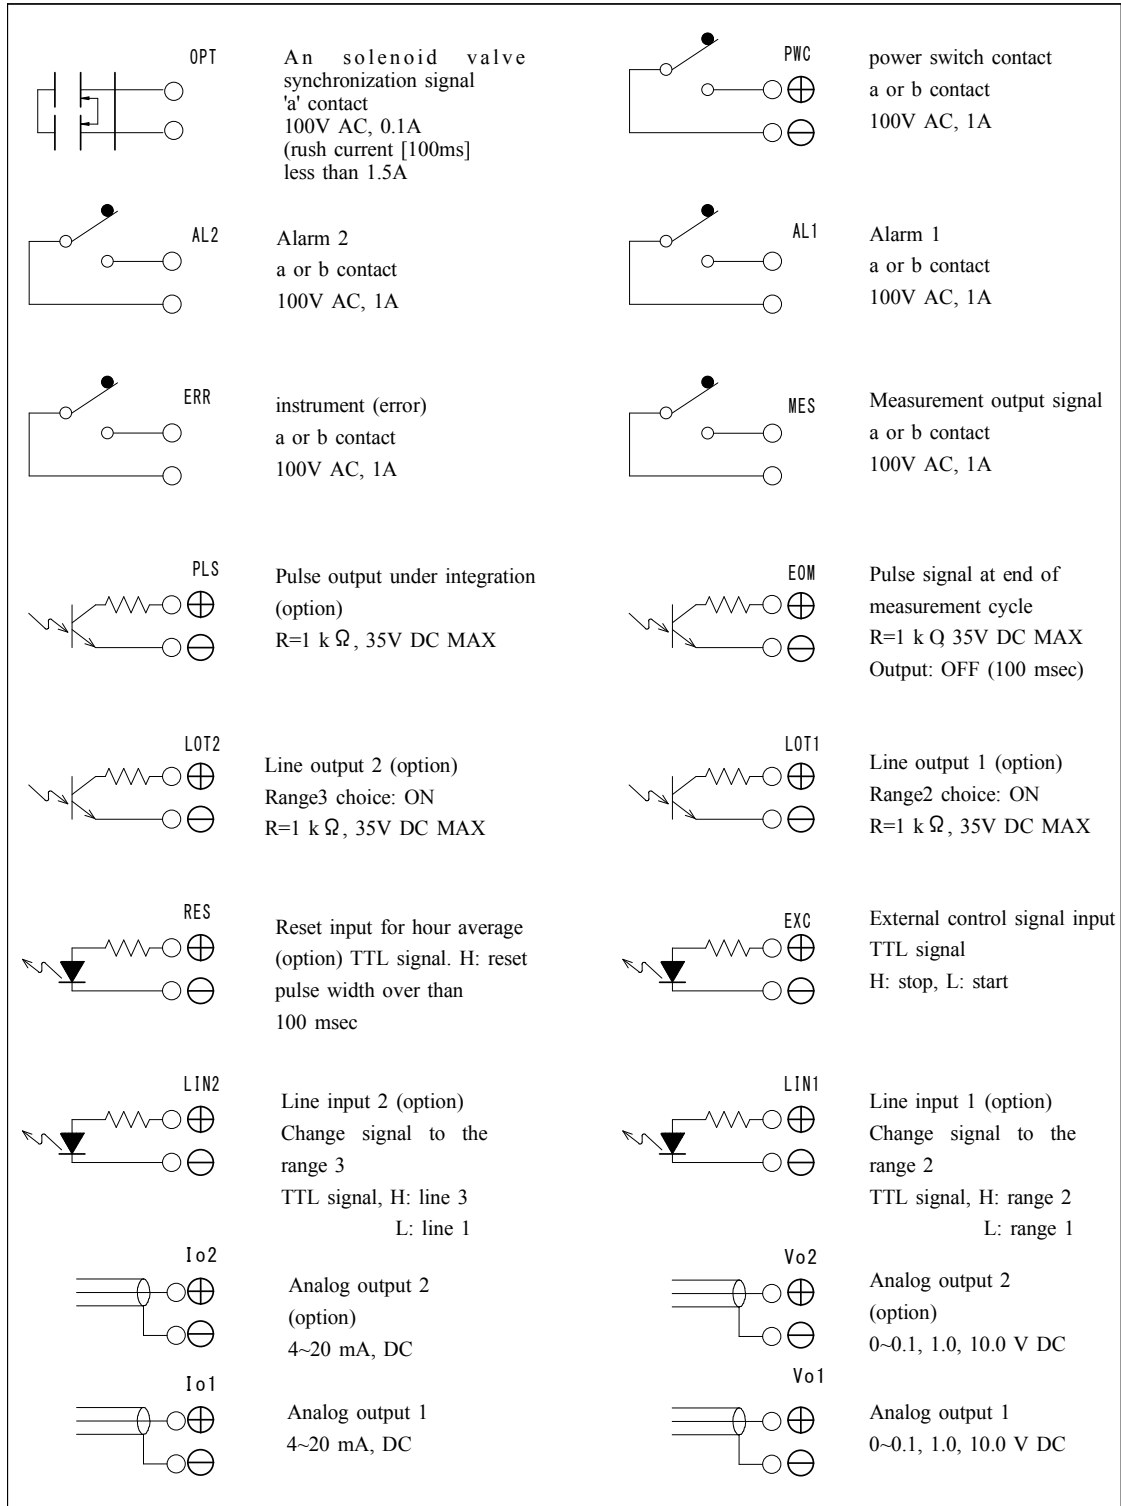

Figure- 5 Connection diagram for I/O terminal block
***Note: Regarding one of optional order among signals of each input and output, they have not the function when you have not specified. In addition, other signals can not be connected to their terminals as one of spare. For detail of each signal, refer to the following Figure-5.**